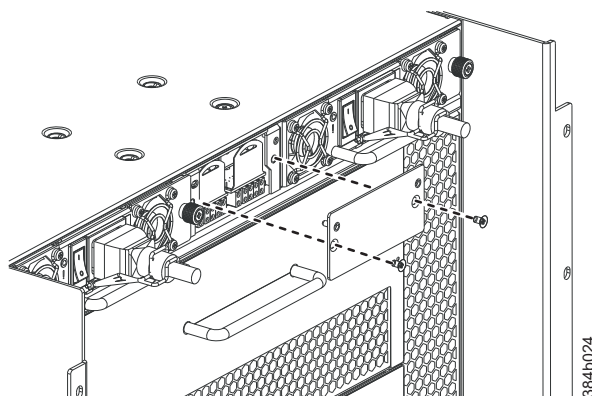

Figure 36. WWN bezel and card removal and installation
7. Remove the two screws from the WWN bezel . Pull the bezel away from the chassis and set it aside (see Figure 36). The WWN cards and their status LEDs are visible.
6. Install the WWN bezel. Orient the bezel on the chassis (Figure 36 on page 85). Insert and tighten the two screws.